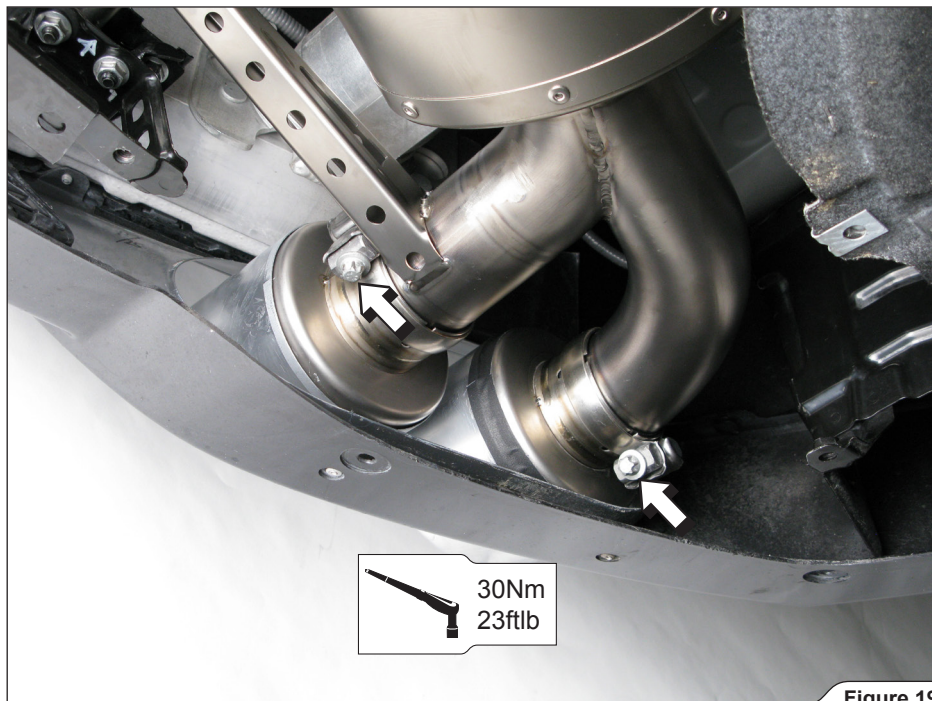

Figure 19
7. **For Slip-On and Evolution:** tighten the tail pipe clamps to a specified torque (**Figure 19**). Repeat the process on both sides of the vehicle.